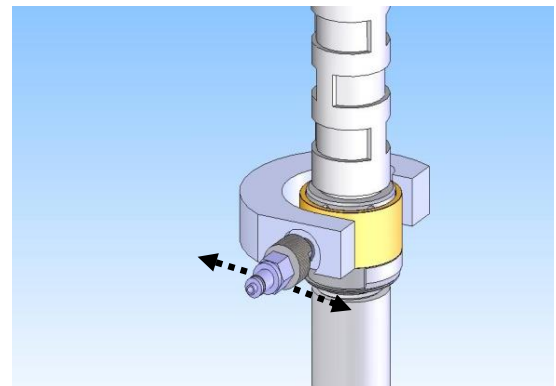

Figure 5: Align the poppet with the injection hold.
- e. Slide the injector assembly side to side until the poppet clicks into alignment with the injection hole in the sleeve (Figure 5).